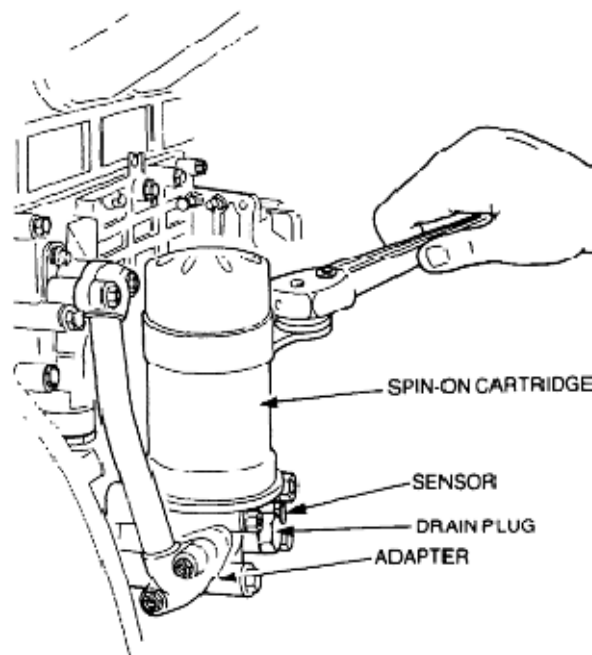

Figure 2 Oil Filter Cartridge Replacement
- e. Install the drain plug using a new sealing washer and tighten it securely (Figure 2).